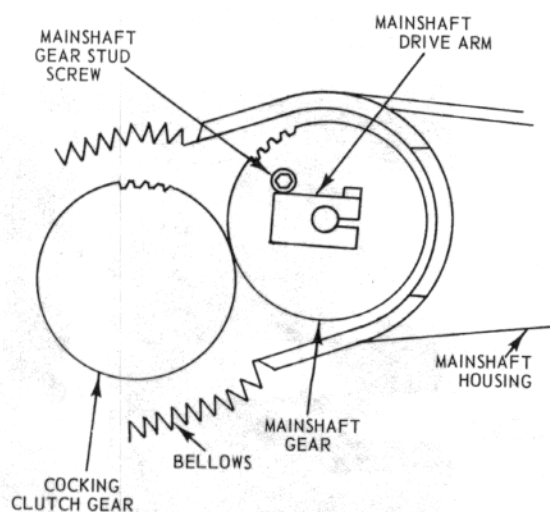
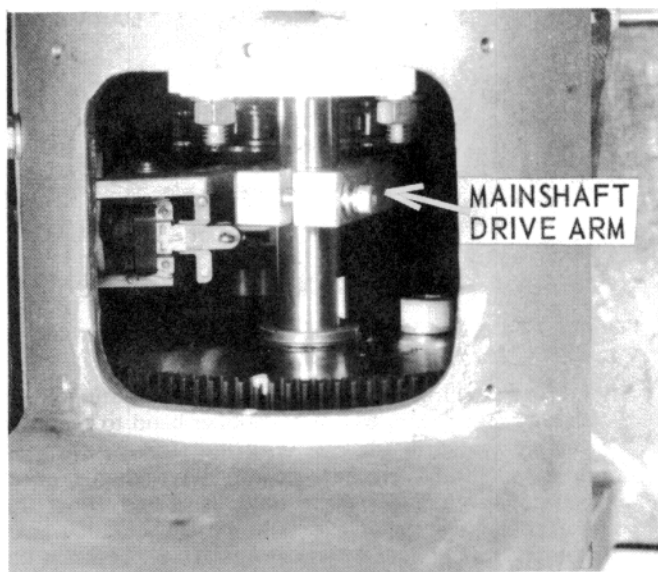

Figure 64 — Mainshaft Gear Stud Screw Contacting Mainshaft Drive Arm
Figure 65 — Mainshaft Drive Arm
- 5.1.5 Observe the amount of mainshaft gear rotation necessary to make the mainshaft gear stud screw contact the right side of the mainshaft drive arm (see Figure 64). The mainshaft gear stud should touch or nearly touch the mainshaft drive arm. The mainshaft drive gear is then in proper position when the trap is cocked.
- 5.1.7 Loosen the mainshaft drive arm lock screw and slide the mainshaft drive arm up so the key can be removed (see Figure 65).
- 5.1.8 The mainshaft gear can now be lifted out of mesh with the cocking clutch gear and rotated to the approximate position required (see Figure 64). It may be necessary to loosen the two clutch actuating bracket screws so the clutch actuating lever assembly can be tilted up to gain more vertical travel for the mainshaft gear (see Figure 65).